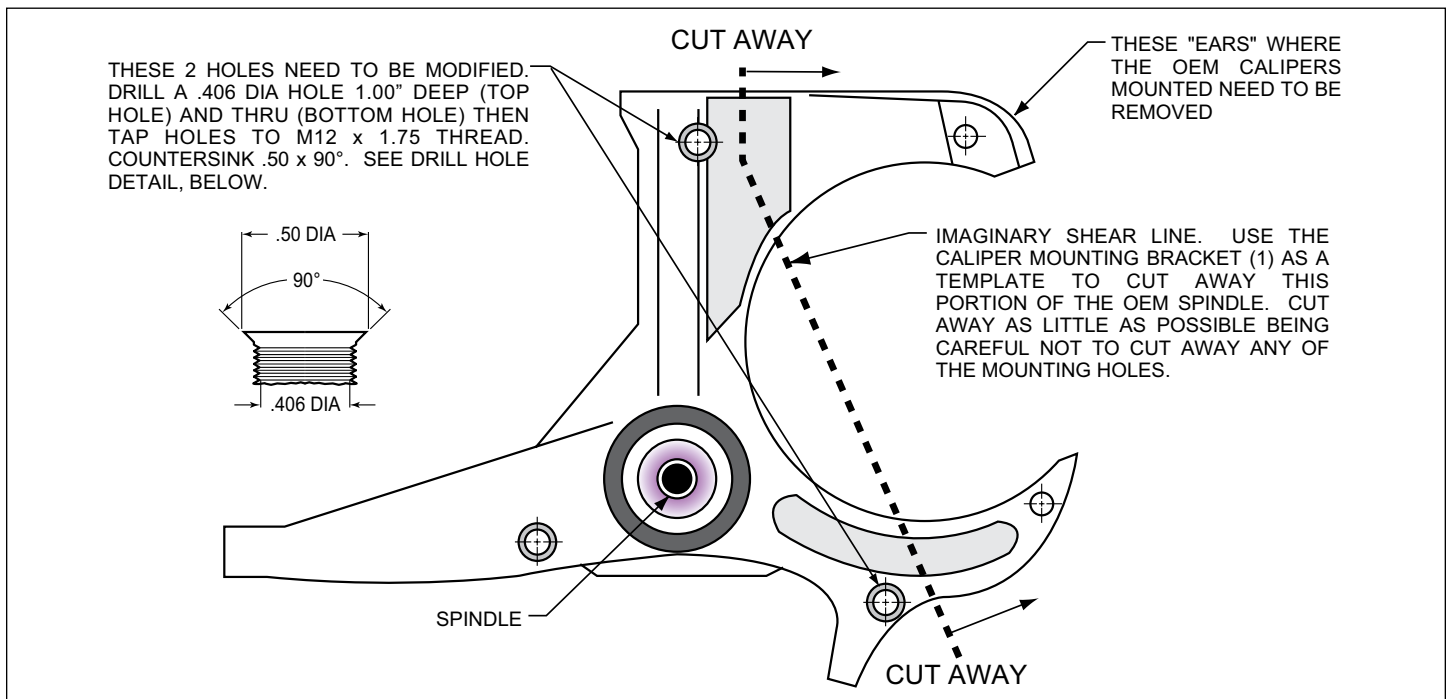

Figure 1. Steering Arm / Spindle Modifications
**NOTE:** These modifications should be performed by a qualified machinist and completed before assembly of the Wilwood disc brake kit begins. Refer to Figure 1 as necessary (numbers in parenthesis refer to the parts list). Only one view of the steering arm/spindle is shown, but the modifications need to be performed on both steering arm/spindles.
The two OEM holes that will be used to mount the caliper mounting bracket (1) need to be modified. Drill a .406 diameter hole, 1.00” deep (top hole), and thru (bottom hole), Figure 1, then tap holes to M12 x 1.75 thread. Countersink the holes to .50 x 90°. The “ears” that protrude to form a “C” shape need to be removed to facilitate the installation of the Wilwood kit. Using the bracket as a template, mark two cut marks on the steering arm. Remove as little as necessary from the “C” shape, being careful not to cut away any of the mounting holes required to bolt on the bracket.